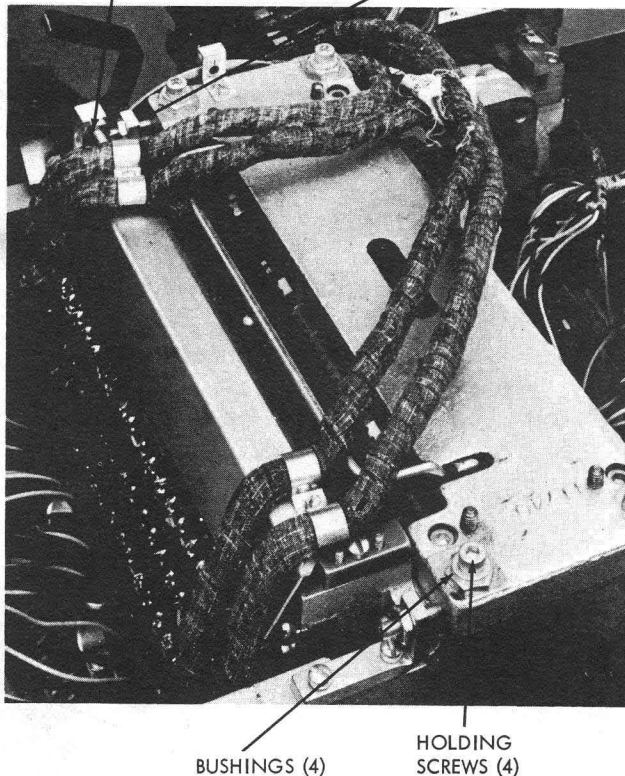

Figure 3-31. Punch Unit Adjusting Screws
- a. Loosen four holding screws on top of punch unit. See Figure 3-31.
- b. Loosen locknut on horizontal adjusting screw and turn adjusting screw to permit shifting punch unit in direction required to correct horizontal registration. See Figure 3-31.
NOTE: Punch unit on this type of side frame requires four, two-inch long bushings (P/N 607770) in top plate. See Figure 3-31.
NOTE: Punch unit installed on this type side frame requires four, half-inch, hex-head bushings 610093 in top plate. See Figure 3-31.